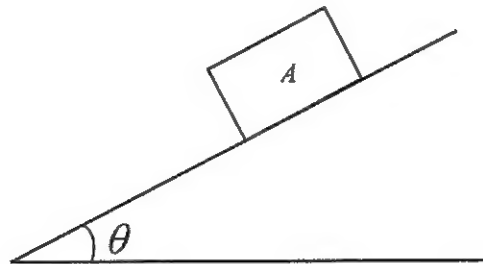

Figure 4(a)
b) A uniform weight 100N ladder is leaned against the smooth wall at point  $A$  shown in Figure 4(b). Given that the horizon force  $F = 8\text{N}$ , located at center gravity of the ladder, has cause the ladder to move to the left.